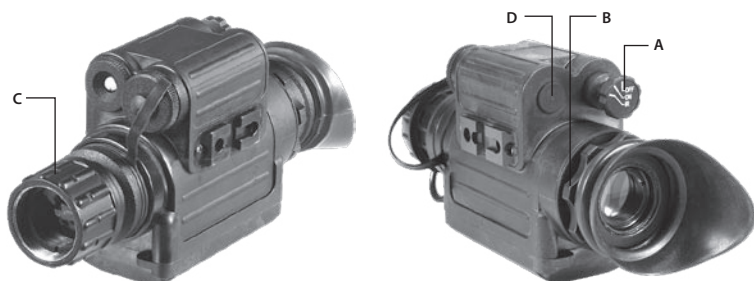

FIGURE 3-14. SPARK CONTROLS
The Spark controls are shown in Figure 3-14.
Function Switch (Figure 3-14, A)	OFF position — the unit is off.
Eyepiece Ring (Figure 3-14, B)	Adjusts the unit diopter. The total dioptic range is covered in a 1/2 ring revolution.
Focusing Ring (Figure 3-14, C)	Focuses the lens. Adjusts for sharpest view of the scene. The total focus range is covered in a 1/3 ring revolution.
Bi-color LED Indicator (Figure 3-14, D)	A GREEN glow indicates that the unit is turned on and ready for operation.
4. Turn the function switch ON. The green indicator light (Fig. 3-14, D) indicates that the unit is ready for operation. After a slight delay, a green glow will appear in the eyepiece of the monocular.